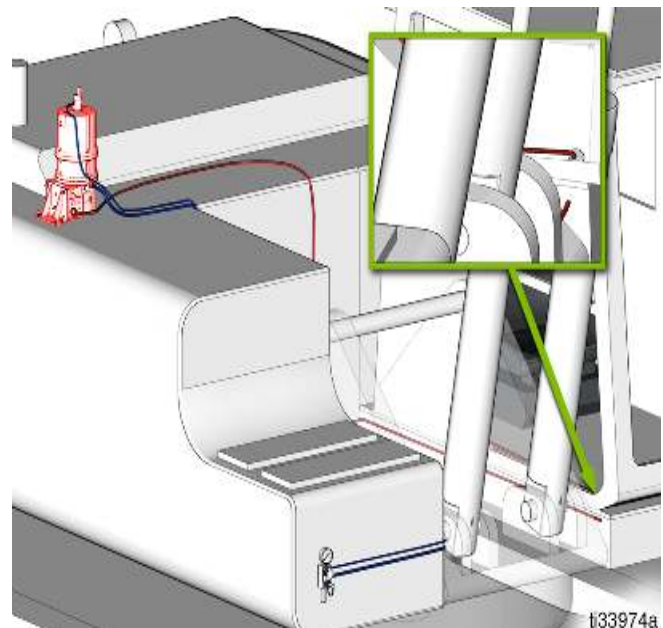

FIG. 13
- The deck plate that surrounds the cab is the preferred installation location (FIG. 13). The deck plate is a non-critical component and drilling through the deck plate is generally acceptable by most manufacturers. However, if this location is not acceptable due to durability or space constraints, identify an alternate location around the cab such as below the ladder, in the engine compartment or on the frame.